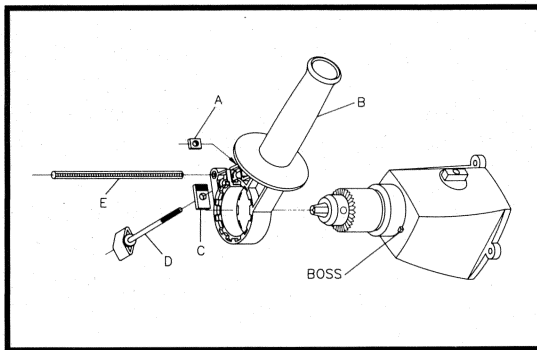

Fig. 5
An auxiliary handle (B) Fig. 5 is provided.
1. Insert square nut (A) Fig. 5, into recess in auxiliary handle (B).
2. Position clamping plate (C) on auxiliary handle with serrations over hex opening.
3. Insert clamping screw (D) through clamping plate, auxiliary handle and thread into nut (A). Do not tighten.
6. Tighten clamping screw (D) securely.
1. Loosen clamping screw (D) Fig. 5.
2. Insert depth rod (E) Fig. 5 through hole in auxiliary handle being sure serrations of rod engage serrations on clamping plate (C).
3. Tighten clamping screw (D) securely to retain both auxiliary handle and depth gage.
5. Loosen clamping screw (D) Fig. 5 and adjust depth gage so that the distance from the end of the depth gage to the tip of the drill bit is equal to the desired depth of hole.